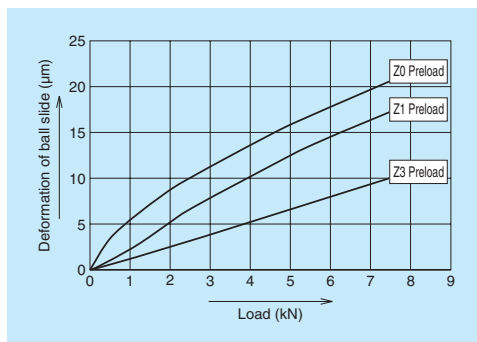

Fig. 3.3 Rigidity of SH35, downward direction load (example)
- **Fig. 3.3** shows the relationship between the ball slide deformation and the external vertical load under a specified preload. SH35 is used as an example.